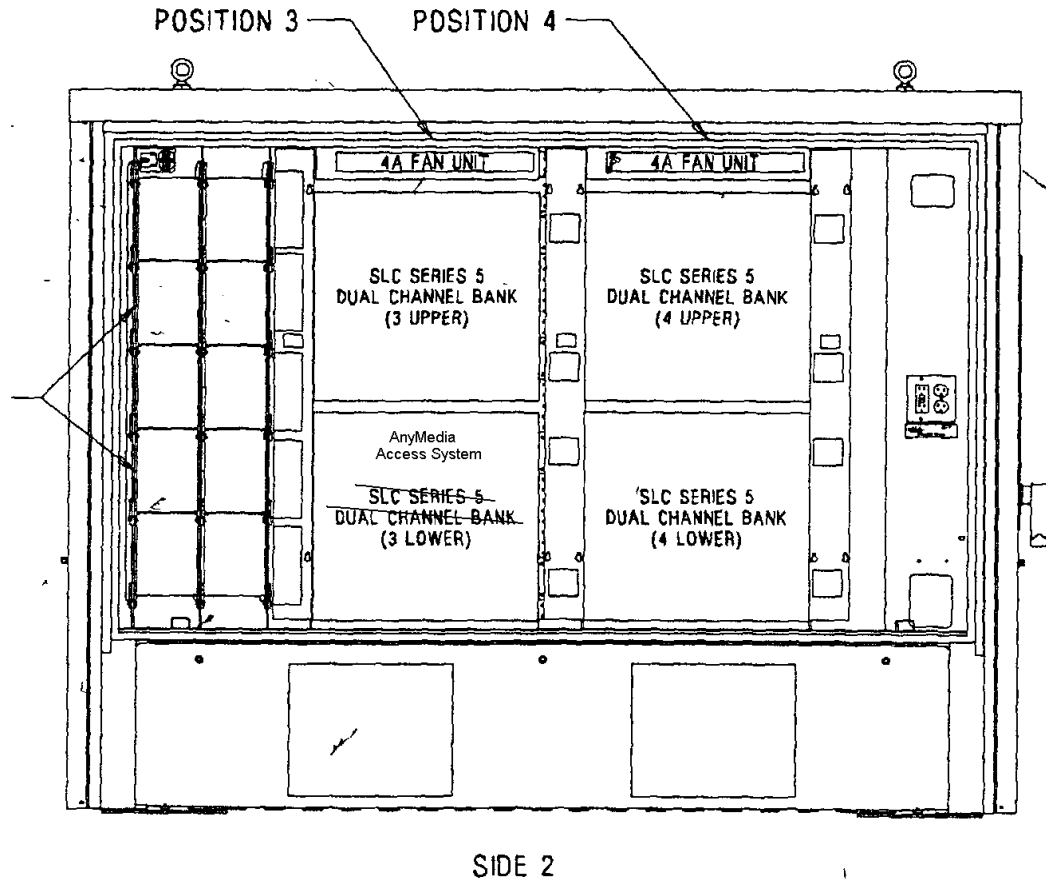

Figure 21. Typical Cabinet Layout Decal
- C I  Step 4: On the cabinet layout decal located on the door, change under "EQUIPMENT APPARATUS" **SLC Series 5 Dual Channel Bank** (x/ y) to **AnyMedia Access System** where x = cabinet bay number and y = an upper or lower position for the system being substituted. See Figure 21. Also note that the "Derived (VF)" pair numbers must also be changed. For each SLC Series 5 DCB 1 through 96 active circuits are wired out and, using cable pair counts in multiples of 25, pairs 97 through 100 are allocated as spares. For FAST pairs 97 through 100 are active so for the purpose of this label the VF pairs should show 100 pair groups.